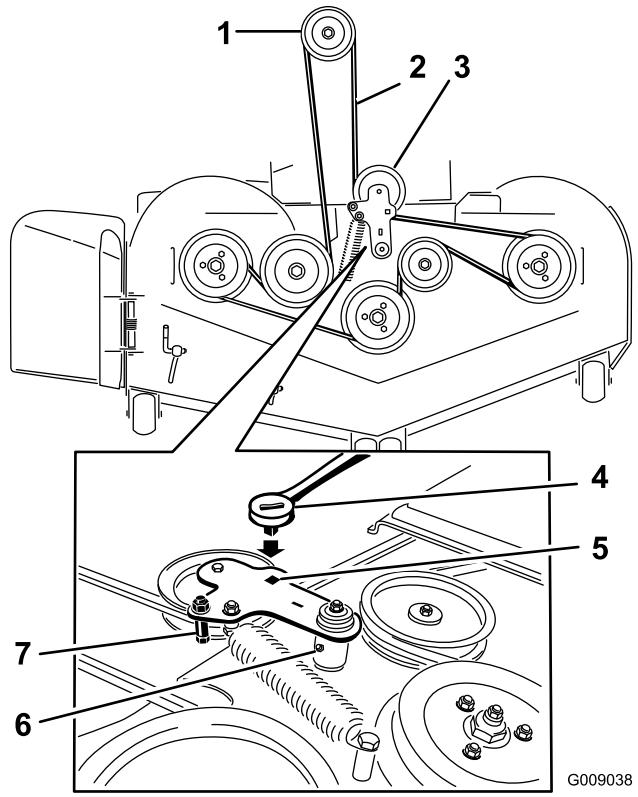

Figure 76
5. Use a ratchet in the square hole in the idler arm to remove tension on the idler spring (Figure 76).
7. Remove the belt guide on the spring-loaded idler arm (Figure 76).
9. Install the new belt around the mower pulleys and the clutch pulley under the engine (Figure 76).
10. Install the belt guide on the idler arm (Figure 76).
11. Using the ratchet in the square hole, install the idler spring (Figure 76).